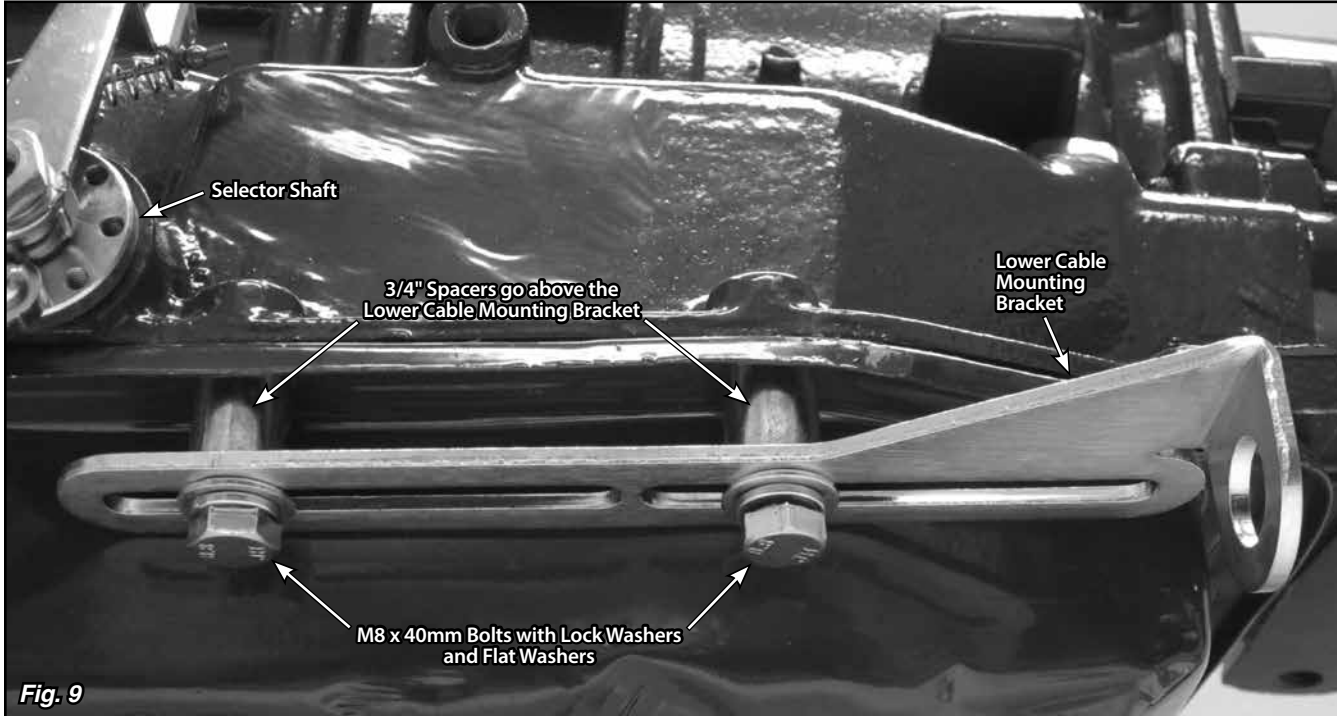

Fig. 9
Step 8: Remove the two pan bolts directly behind the selector shaft. Install the lower cable mounting bracket on the left side of the transmission pan, using the provided M8 x 40mm bolts, lock washers, flat washers, and 3/4" spacers. The spacers go in between the bracket and the transmission pan. Do not tighten the bolts yet. **Fig. 9**